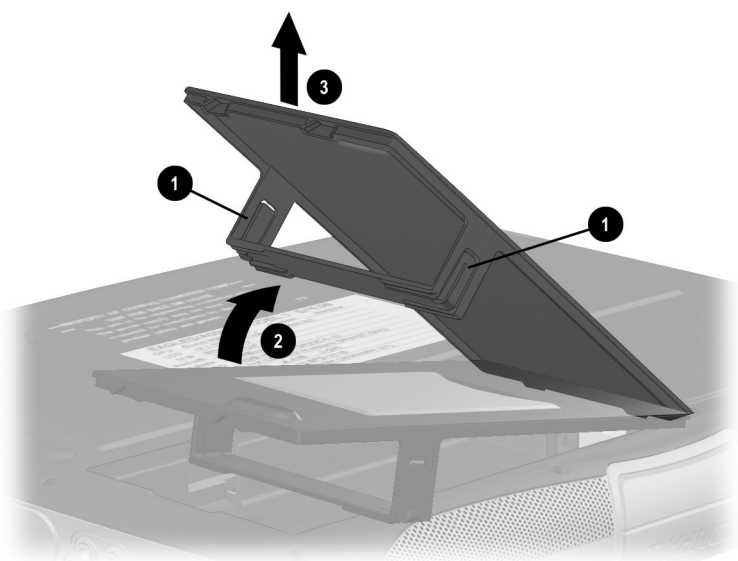

Figure 5-4. Removing the Battery Bracket
- e. Press in on the tabs on the battery bracket retention arms ❶ and swing the battery bracket up and to the right ❷ (Figure 5-4).
- f. Lift the battery bracket straight up to remove it ❸.